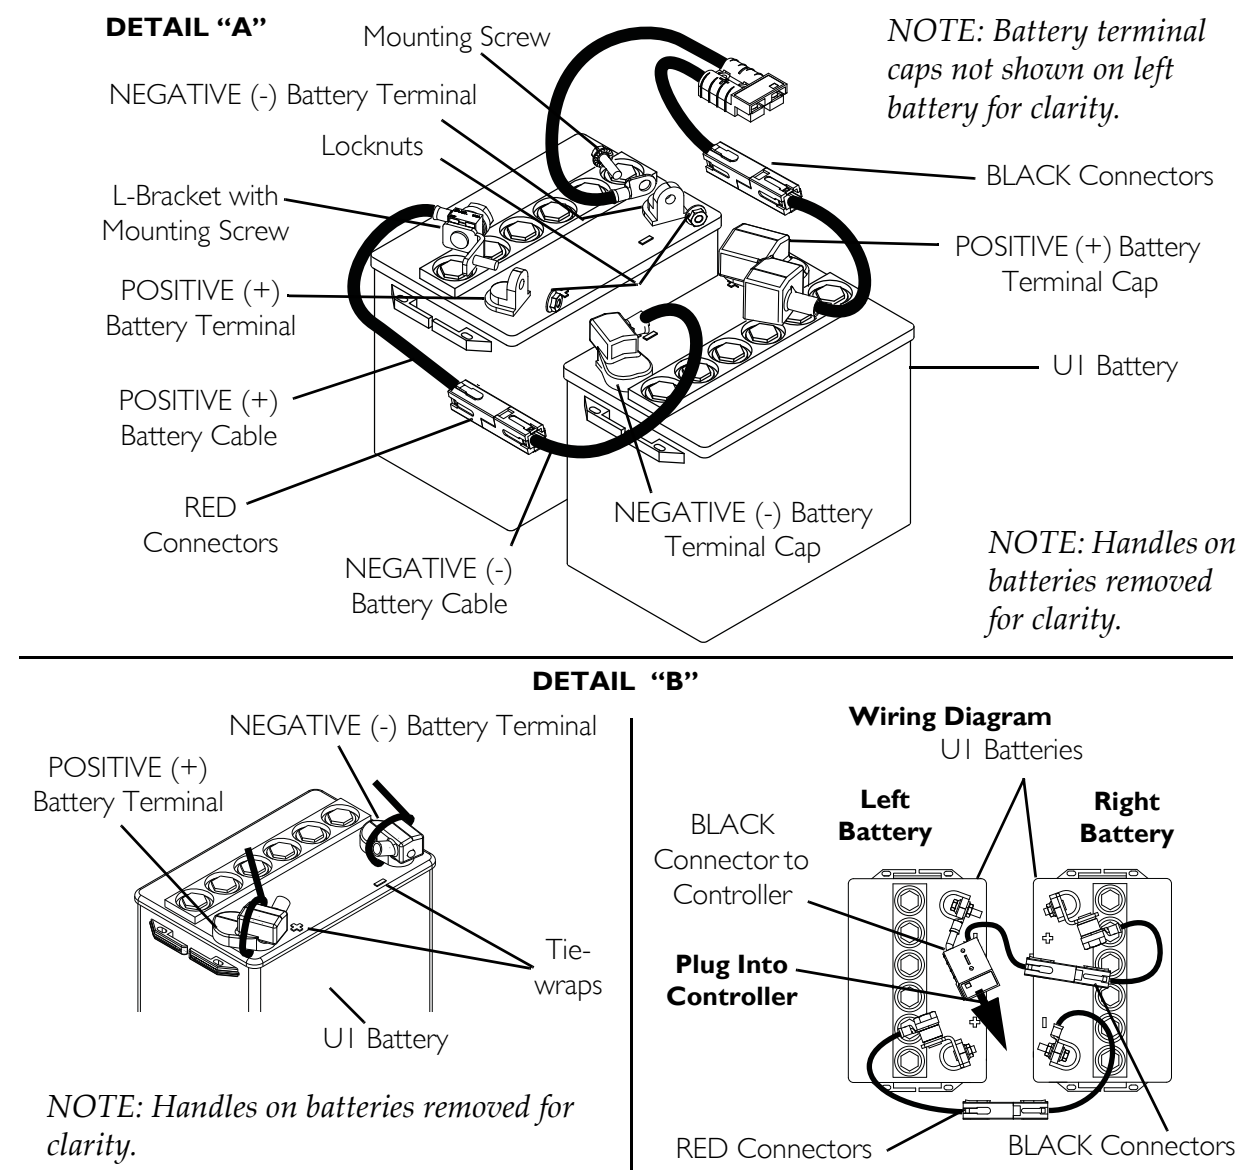
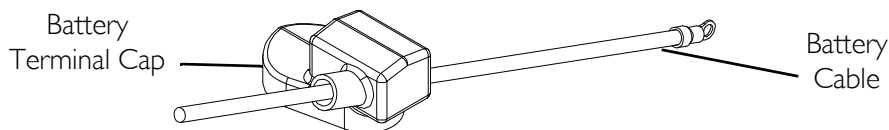

FIGURE 13.2 Connecting/Disconnecting Battery Cables
FIGURE 13.3 Battery Terminal Caps
Battery terminal configuration as shown in Detail “A” of **FIGURE 13.2** **MUST** be used. Batteries that have the terminal configuration reversed **MUST NOT** be used - otherwise serious injury or damage may occur.
When connecting the battery cables to the batteries, the battery cables **MUST** be connected to the battery terminals/posts, as shown in Detail “A” of **FIGURE 13.2** (depending on battery type), otherwise damage to the battery cable may result when installing battery terminal caps.
NOTE: For this procedure, refer to FIGURE 13.3 and FIGURE 13.2 on page 62.
1. Connect battery cables to batteries terminals/posts (FIGURE 13.2):
2. Secure the battery cables/ring terminals to the battery terminals/posts, **BLACK** to **NEGATIVE (-)** and **RED** to **POSITIVE (+)**, with the provided 1/4-20 x 5/8-inch hex flange screw and hex flange locknut. Securely tighten (Detail “A” of FIGURE 13.2).
4. Slide terminal caps down battery cables and onto battery clamps (FIGURE 13.2).
5. Secure each terminal cap in place with a tie-wrap (use tie-wraps 11-1/2-inches long) (Detail “B” of FIGURE 13.2).
NOTE: For this procedure, refer to FIGURE 13.2 on page 62 and FIGURE 13.3 on page 63.
3. Cut the tie-wrap that secures the battery terminal cap in place (Detail “B” of FIGURE 13.2).
4. Slide terminal cap(s) UP on the battery cable(s) (FIGURE 13.3).
5. Disconnect POSITIVE (+) RED battery cable from the POSITIVE (+) battery terminal/post (FIGURE 13.2).
6. Disconnect NEGATIVE (-) BLACK battery cable from NEGATIVE (-) battery terminal/post (FIGURE 13.2).